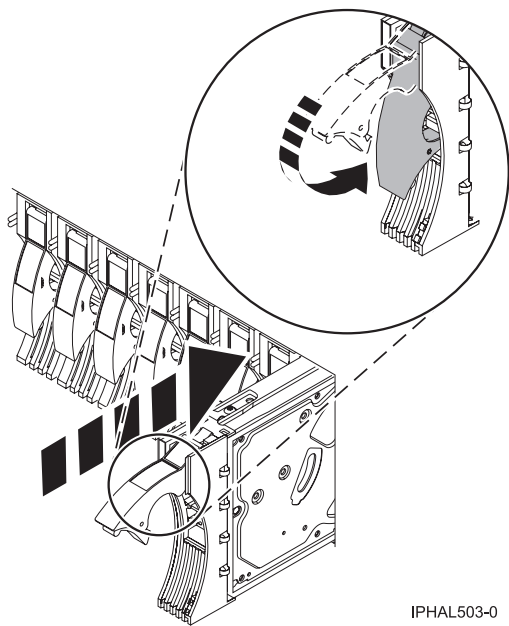

Figure 51. Installing a disk drive in a model
6. Install the disk drive as shown in Figure 51 on page 72.